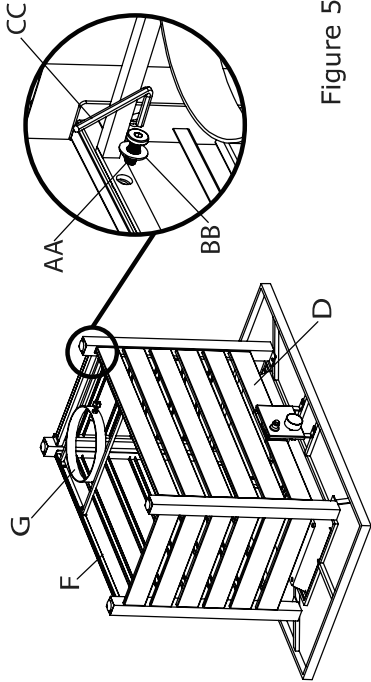

Figure 5
5. Attach gas cylinder support (G) to back panel (F) and front panel (D) with bolts (AA) and washer (BB) using hex screw driver (CC), (see Figure 5).